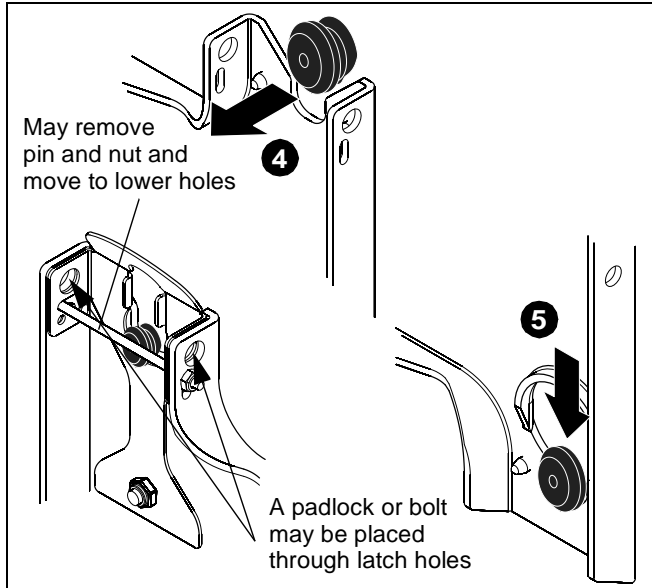

Figure 4
**NOTE:** Holes are provided in the faceplate for use with a padlock or similar locking device, if desired. In addition, the pin and nut may be removed from the upper holes and moved to the lower holes for use as a more permanent locking device. (See Figure 4).